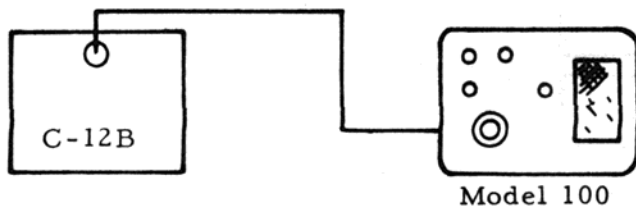

FIG. 1
2. Disconnect antenna and connect the C-12B to the Executive Antenna terminal, as shown in Fig. 1.
- (h) Apply a channel 9 signal from the C-12B to the Executive model 100 D. Set the C-12B LEVEL control full clockwise. (fig. 1)